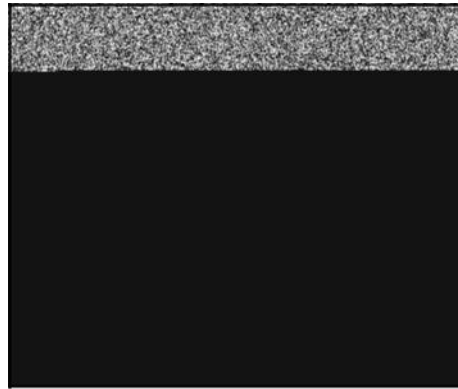

Figure 30
1. Place starter drive retainer on support block (Figure 29) and drive out roll pin (**A**, Figure 30) with a 5/32" (.4mm) pin punch. Discard roll pin.